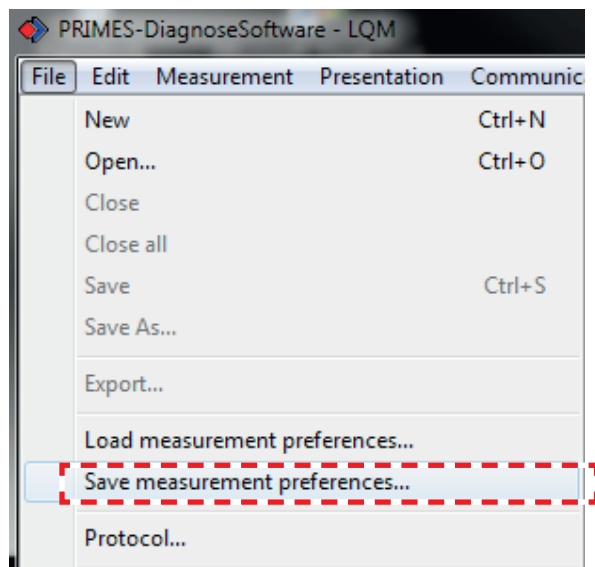

Fig. 21.17: Menu *File>>Save measurement preferences*
2. Select *File>>Save measurement preferences* (see Fig. 21.17)